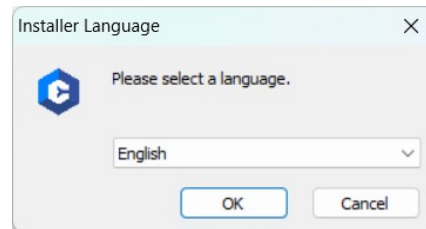

Figure 4-3 Select Language
1. Double click the 3DeVOK Studio V4.2.3.3.exe, select the language and click OK, as shown in Figure 4-3.